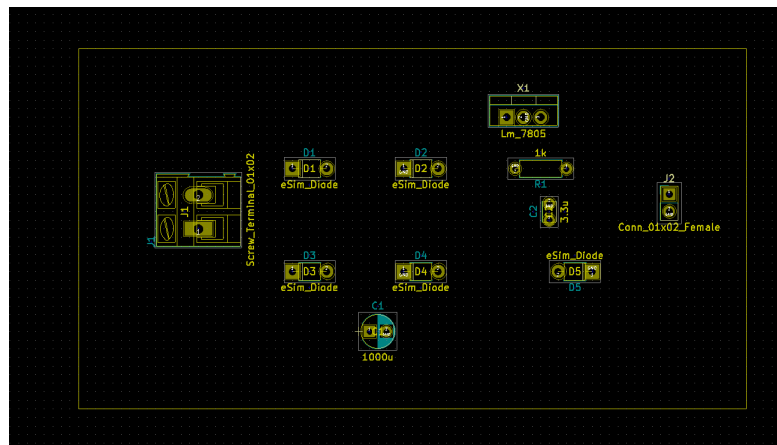

Figure 13.18: Drawing a board outline
4. Click once on the layout editor to start drawing the outline. Drag the cursor either horizontally or vertically. When it comes to the corner of the board, click once and drag the cursor in perpendicular direction. Do this till you reach the origin of the outline, and double click to finish drawing the rectangular outline. Completed outline is as shown in Fig. 13.18.
3. The procedure to place a track between Node 2 of Screw\_Terminal\_01x02 to Node 1 of D3 diode, as shown in Fig. 13.18 is described in below steps.